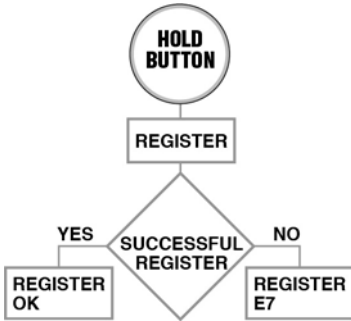

FIG. 3
3. The display reads "REGISTER OK" as shown in FIG. 3, page 5 when the TLM is registered with the Pulse software.
If the TLM did not register with the Pulse software the error message "REGISTER E7" displays (see Step 1, FIG. 3).